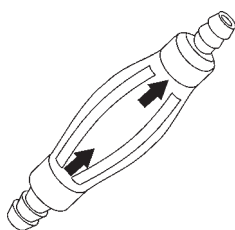

Figure 29. Priming Bulb
9. Squeeze the water pump **priming bulb** (Figure 29) until water begins to flow through the water lines. If the pump is working correctly, the cutting blade should be covered with a steady water mist. This will keep the blade cool.